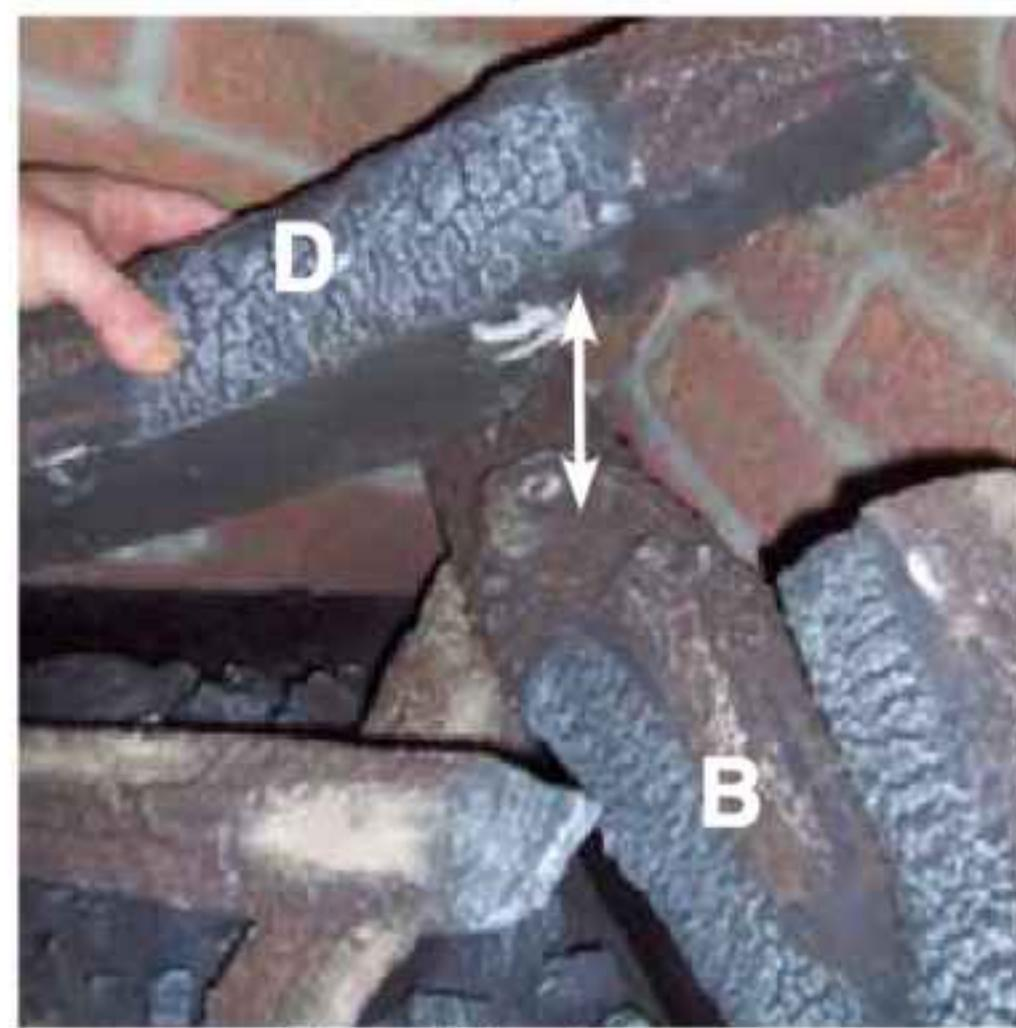

Figure 91: Log D Locator
6) Identify locator on Log D and opposing Locator on Log B as shown in Figure 91. Place Log D gently on Log B.